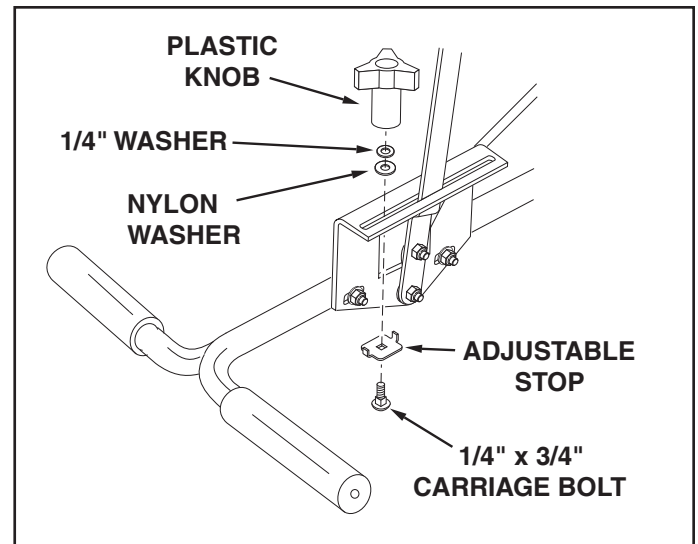

FIGURE 11
19. Assemble both the flow control mounting bracket and the short handle tube to the long handle tube. Use two 1/4" x 1-3/4" hex bolts, four 1/4" washers and two 1/4" nylock nuts as shown in figure 11. **Do not tighten at this time.**
21. Place the adjustable stop into the "ON" end of the slot in the top of the flow control mounting bracket. Secure with the 1/4" x 3/4" carriage bolt, a nylon washer, a 1/4" washer and the nylon wing nut. See figure 11.